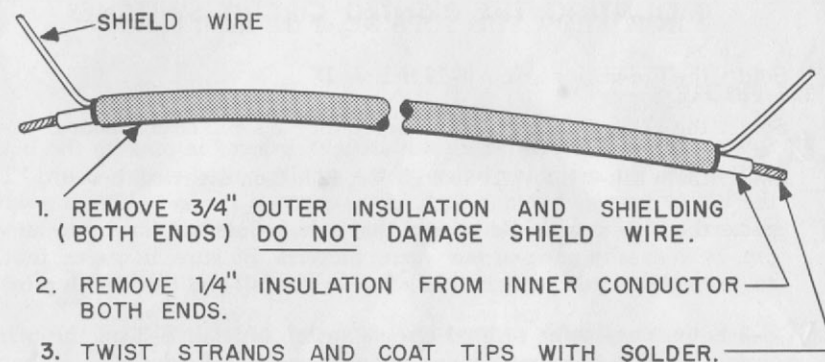

FIGURE 10. PREPARATION OF FIRST GROUP OF SHIELDED CABLE
- ☒ Prepare four pieces of the 10" shielded cable as shown in Figure 10. Each cable is made of an insulated **inner conductor** of stranded wire covered by a black, plastic-like **shielding**. Under the shielding runs a solid **shield wire** the length of the cable. The shielding is covered by an **outer insulation**.